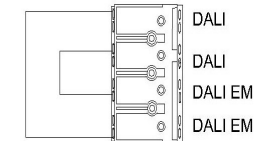

Fig 3
1. If using a fully addressable system i.e. only a single DALI pair is supplied to the fitting then the DALI & DALI EM terminals need to be linked as shown in Fig 3.